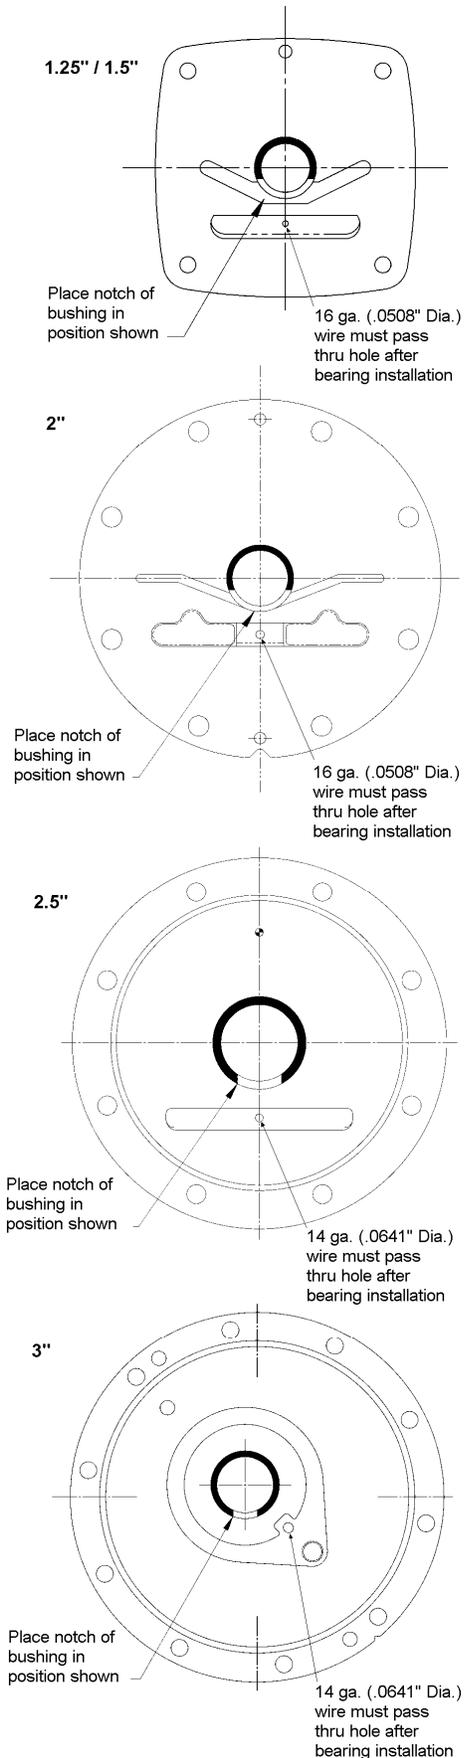

Figure 7a – Sleeve Bearing Alignment
- Coat the new bearing with a quality grade of bearing grease, and place it on the inside face of the head with the notched end UP. **Align the notch in the bearing with the groove in the head.** See figure 7a.
- Ensure that the hole in the face of the head is open after inserting the bushing. See figure 7a.